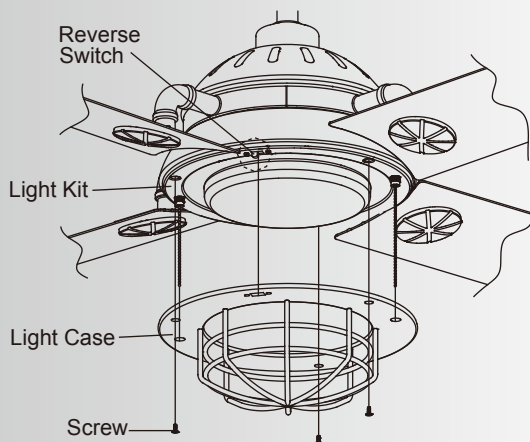

Fig. 22
Step 2. Let the reverse switch and 2 pull chains through the holes on the light case. Attach the light case to the light kit by using the three flat head screws in hardware package. (Fig. 22)